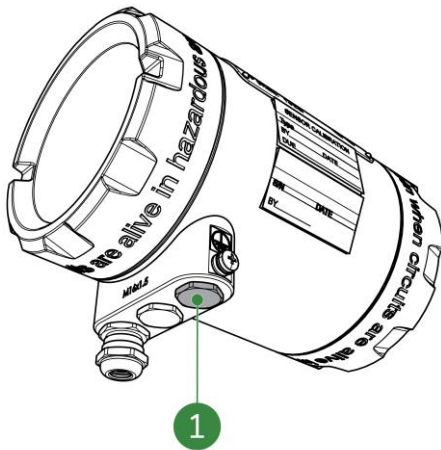

Figure 5-20: Blind plugs
2. Remove a blind plug (Figure 5-20, pos. 1).